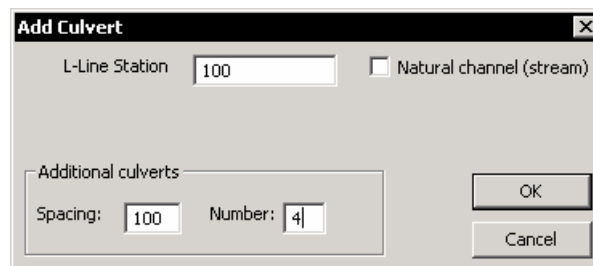

Figure 7.7: Add Culvert Dialog
- Press the *Add* button and change the Add Culvert dialog box to match Figure 7.7. Press *OK*.